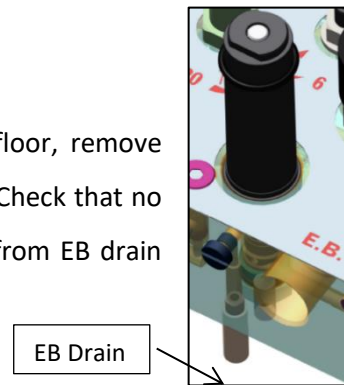

Fig. 5
- 1- Turn off the power supply with the elevator stationary at the floor, remove solenoid valve EB and unscrew EB core with setscrew wrench 15. Check that no oil leaks occur from the core seat, from under the unit valve or from EB drain (Fig.5).